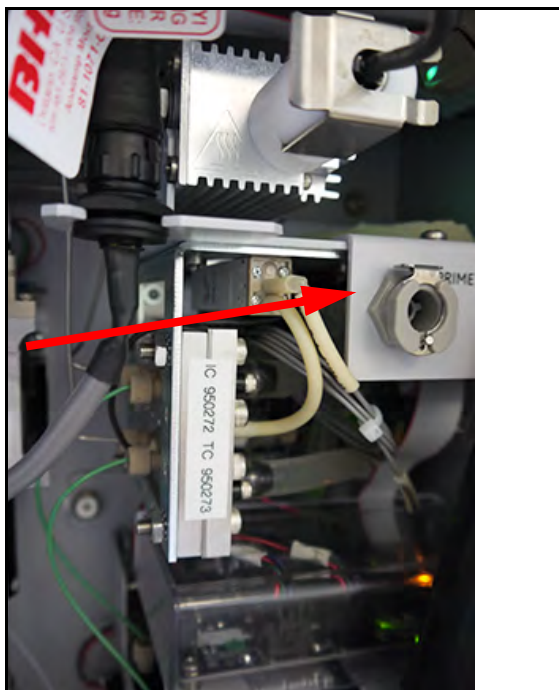

Figure 68: Backflushing the Sample Side
1. Disconnect the top tubing from the solenoid valve (Figure 68) and observe to see if water drips from the end of the tubing.